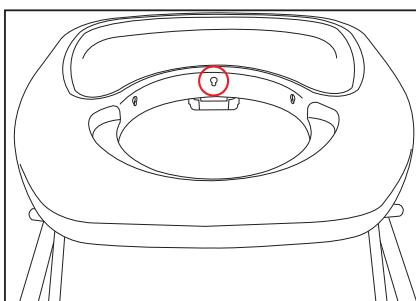
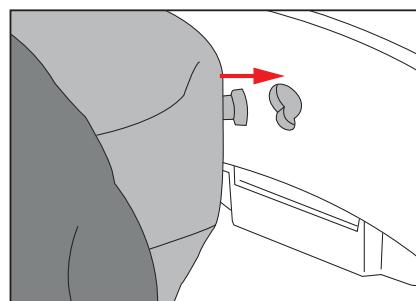

Figure 4.1
Figure 4.2
- Starting with the center plastic post, insert the front center post into the front center hole of the walker (See Figure 4.1) and push down to lock in place. See Figure 4.2.